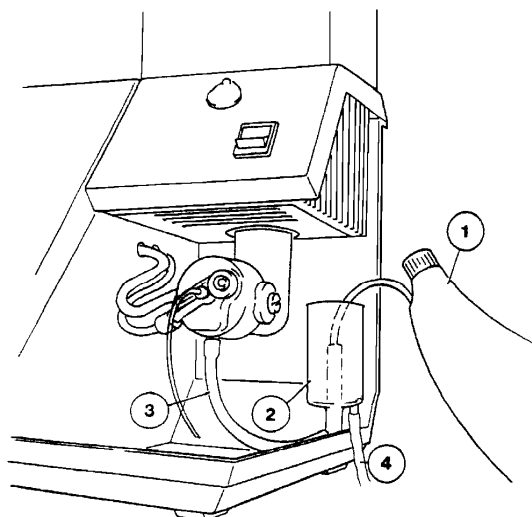

Figure 2.4 Filling the 'U' tube
- 8 Fit the drain tubing (400 22 000) (item 4, figure 2.4) to the outlet on the constant head and drain. If necessary connect a suitable length of tubing (not supplied), to extend the drain tubing to carry waste to a sink or other drain receptacle. The downward flow of waste must not be restricted.
- 9 Make sure that the constant head and drain is pushed fully down on its mounting screws. Use a wash bottle (item 1, figure 2.4) to fill the 'U' tube with deionised water. Sufficient water should be used to purge the tube of air. Allow excess water to flow back into the drain.